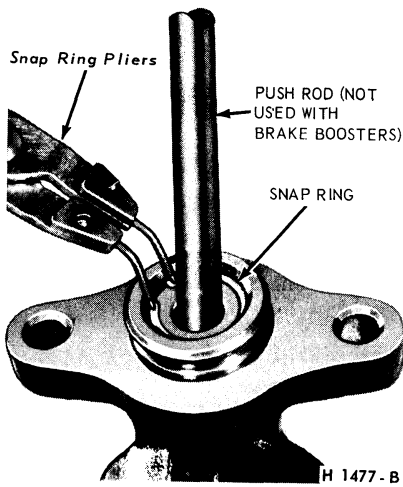

FIG. 27 — Removing Snap Ring—Typical
4. Remove the snap ring from the retaining groove at the rear of the master cylinder bore (Fig. 27). Remove the push rod and the primary piston assembly from the master cylinder bore. **Do not remove the screw that retains the primary return spring retainer, return spring, primary cup and protector on the primary piston. This assembly is factory pre-adjusted and should not be disassembled.**
8. Install the bleed screw (if so equipped). Install the gasket (diaphragm) in the master cylinder filler cover. Position the gasket as shown in Figs. 27 and 28. **Make sure the gasket is securely seated.**